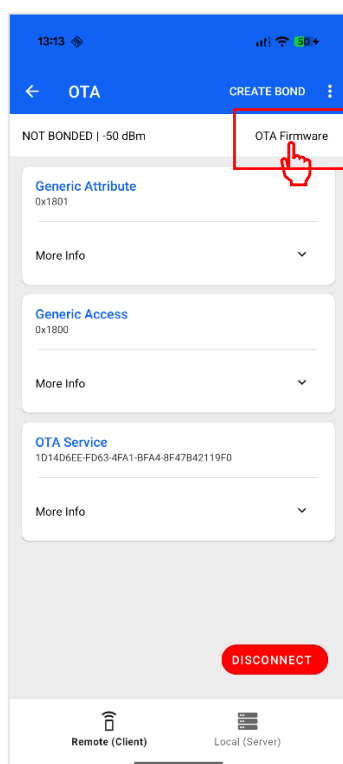

Fig. 9.4 OTA Firmware
6. Click **“Connect”** to connect to the receiver. The following window will appear (Fig. 9.4).